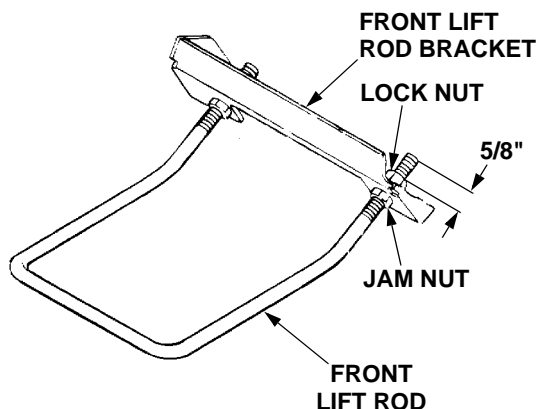

Figure 37
- Initially adjust the front lift rod to allow 5/8 inch of thread to protrude beyond both lock nuts of the front lift rod/bracket assembly (Refer to Figure 37).
- To adjust the downward tilt of the blades, adjustment of the front lift rod is required. Refer to Figure 37 and proceed as follows: